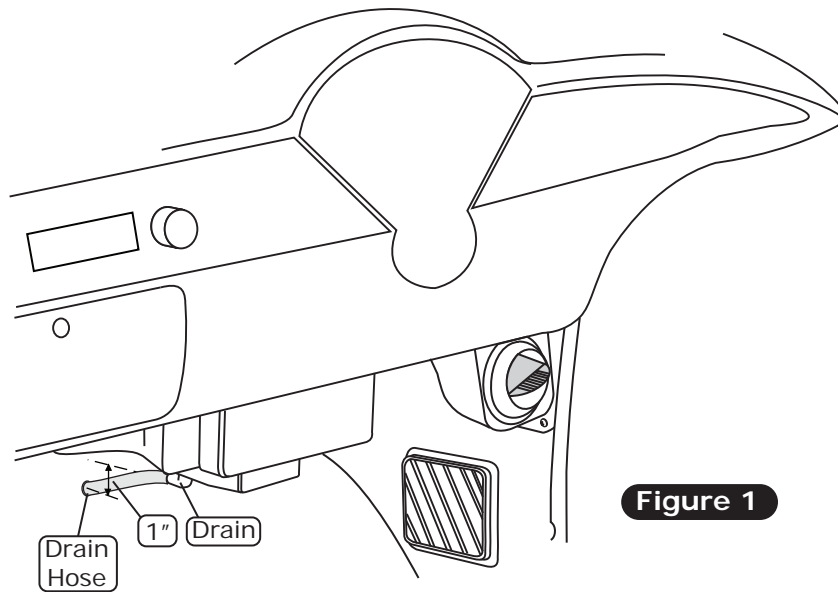

Figure 1
2. In line with the drain, lightly scribe a mark on the firewall. Measure down 1" and drill a 5/8" hole through the firewall (See Figure 1, below).